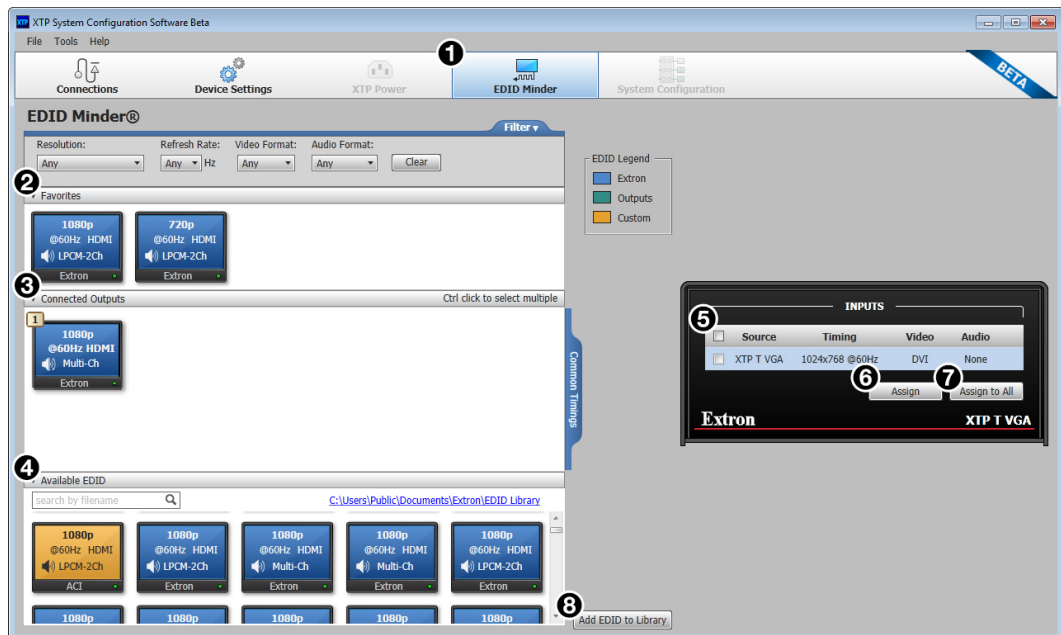

Figure 27. EDID Minder Screen
Use the EDID Minder screen to assign unique EDID to the input or match current output resolutions to the input. Click the **EDID Minder** icon (see figure 27, ❶) on the global navigation bar. The EDID Minder screen opens.
1. Select an available EDID setting (represented by a blue, green, or yellow output display icon) from the Favorites, Connected Outputs, or Available EDID panel (see ❷-❹).
2. In the list of inputs on the right side of the screen, select the check box of the connected input (see ❺).
TIP: Alternatively, click the **Assign to All** button (see figure 27, ❼) to assign a selected EDID to the input.
3. Click the **Assign** button (see ❻) below the input area.
1. On the EDID Minder screen, right-click on the desired EDID setting in the **Connected Outputs** panel (see figure 27, ❸).
1. Click and drag the desired EDID from the Connected Outputs or the Available EDID panel to the Favorites panel. The EDID setting is copied to the Favorites panel (see figure 27, ❷). Alternatively, right-click the desired EDID and select **Copy**. Then **Paste** the EDID setting into the Favorites panel.